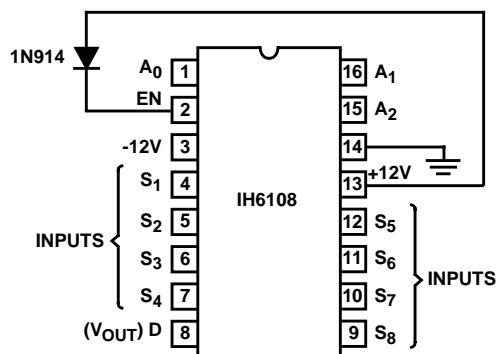

FIGURE 6. IH6108 CONNECTION DIAGRAM FOR LESS THAN $\pm 15V$ SUPPLY OPERATION
Caution must be taken to ensure that the enable (EN) voltage is at least 0.7V below $V+$ at all times. If this is not done, the Address input strobing levels will not function properly. This may be achieved quite simply by connecting EN (pin 2) to $V+$ (pin 13) via a silicon diode as shown in Figure 6. When using this type of configuration, a further requirement must be met: the strobe levels of A0 and A1 must be within 2.5V of the EN voltage in order to define a binary "1" state. For the case shown in Figure 6 the EN voltage is 11.3V which means that logic high at A0 and A1 is +8.8V (logic low continues to be 0.8V). In this configuration the IH6108 cannot be driven by TTL (+5V) or CMOS (+5V) logic. It can be driven by TTL open collector logic or CMOS logic with +12V supplies.